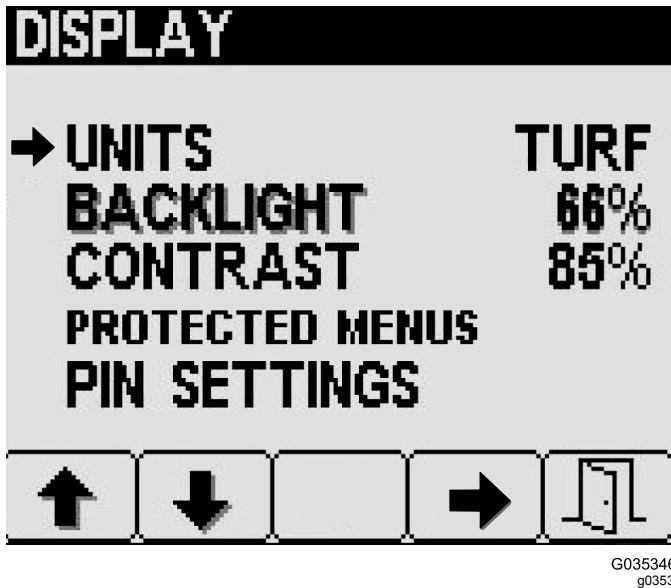

Figure 27
- At the Display menu screen, press buttons 1 or 2 navigate to the Units option and then press button 4 to select Units (Figure 27).